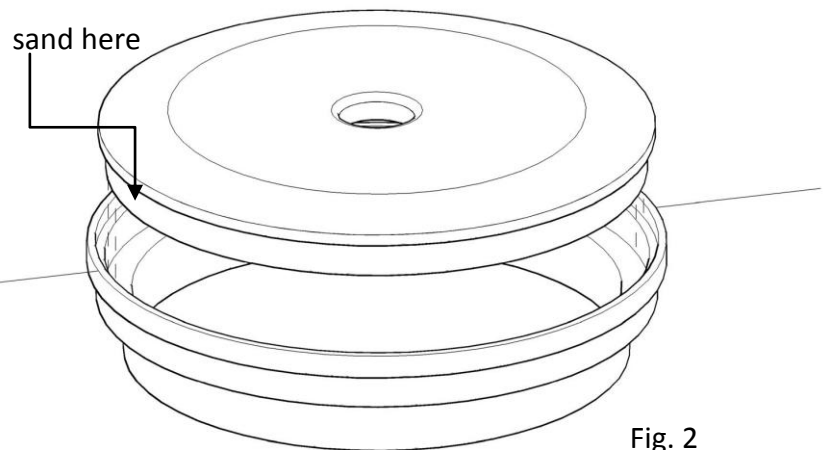

Fig. 2
3. In the event your StoneLid™ does not seat or fit properly into the opening, (usually due to deformation or thermal expansion of the skimmer ring), you can gently remove excess material from the lid with #60 grit sandpaper to achieve a proper fit. (fig.2)